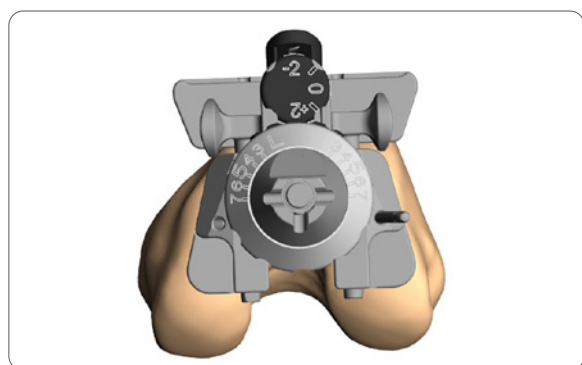

Figure 7
4. Orient rotation of the assembly neutral to the posterior condyles (**Figure 7**) insert a headed or non-headed 65mm pin into one or both of the oblique pin holes.